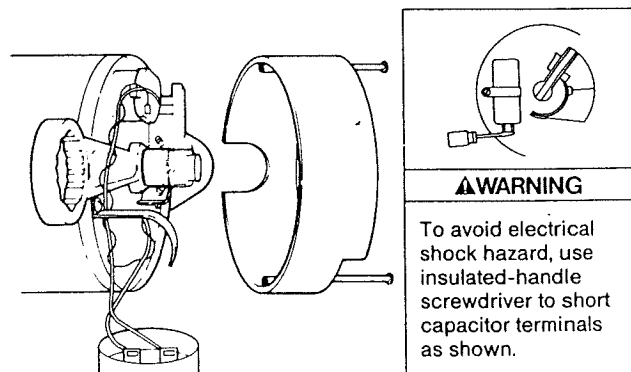

Figure 22—Hold Shaft
2. If impeller must be replaced, loosen two machine screws and remove motor canopy (see Figure 22).
3. **WARNING** Capacitor voltage may be hazardous. To discharge capacitor, hold insulated handle screwdriver **BY THE HANDLE** and short capacitor terminals together (see Figure 22). Do not touch metal screwdriver blade or capacitor terminals. If in doubt, consult a qualified electrician.